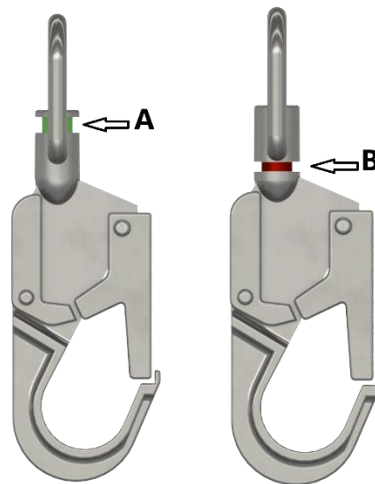

Figure 1
- Check the fall indicator (Figure 1), if it has been activated that the RTFA shall not be used.